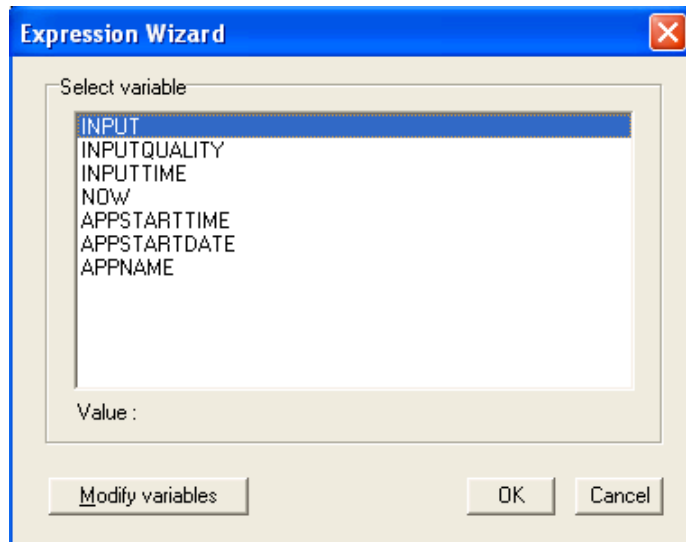

Figure 32 - Select Variable Window
11. Click on the **Variable** button to go to the **Select variable** (Figure 32) window. After selecting the required variable, click on the **OK** button to close the **Select variable** window and return to the **Expression Wizard**.